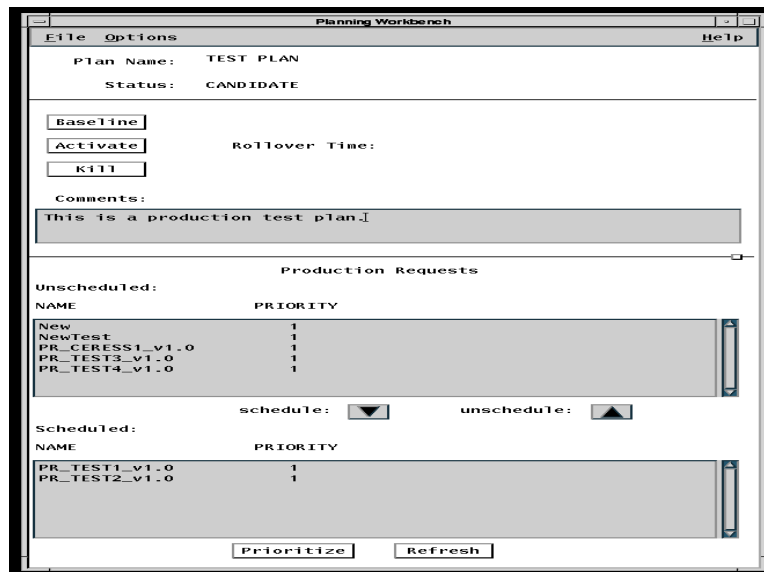

Figure 26.14.6-1. Planning Workbench GUI
- A Planning Workbench GUI will be appeared as shown in **Figure 26.14.6-1**.
Planning Workbench GUI is displayed (Figure 26.14.6-1)